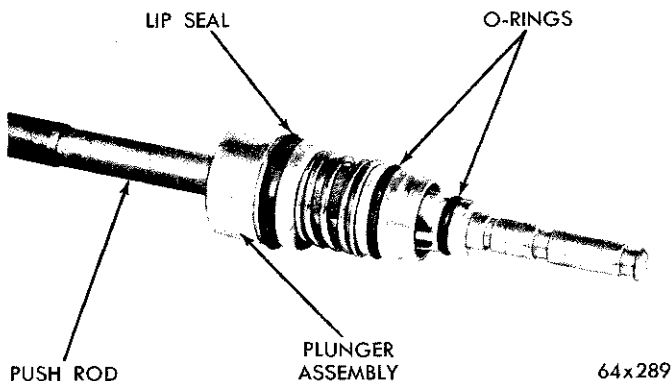

Fig. 43—Valve Plunger Assembly
(18) Remove the two "O" rings and the lip seal ring from the valve plunger (Fig. 43).
(19) Remove the "O" ring from the power piston.